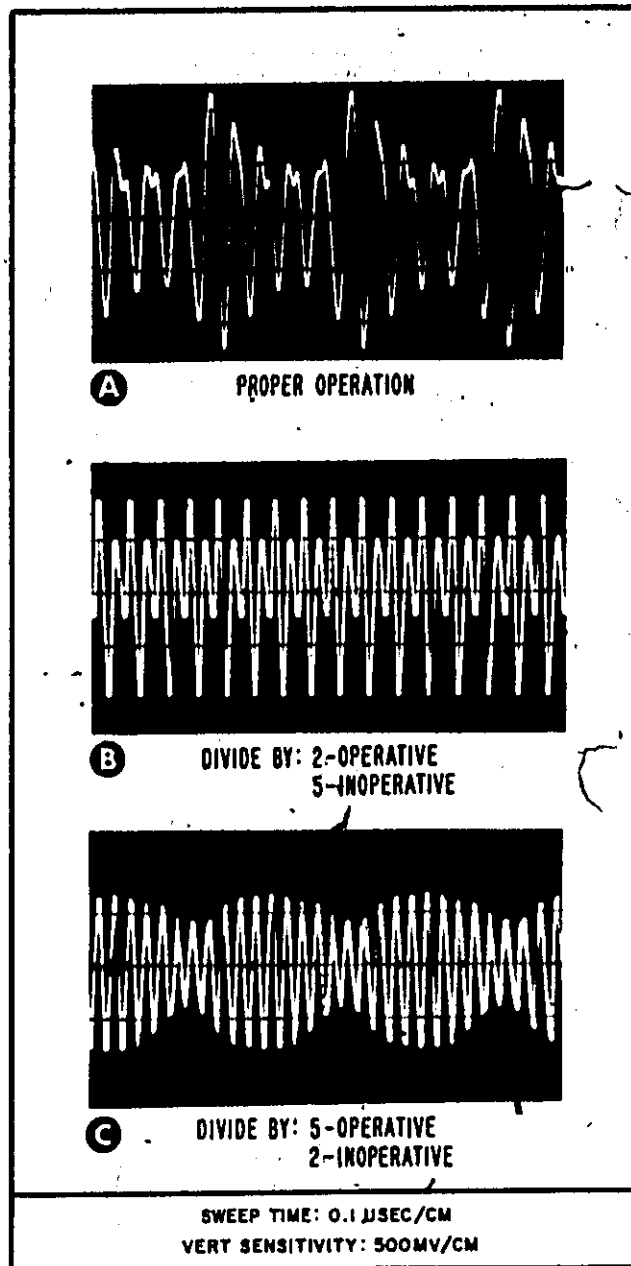

Figure 5-6. Divider Waveforms
j. Check for proper operation of the divide-by-5 circuit as indicated by the waveform at the junction of R67 and L56. The proper waveform is "a" in Figure 5-6.